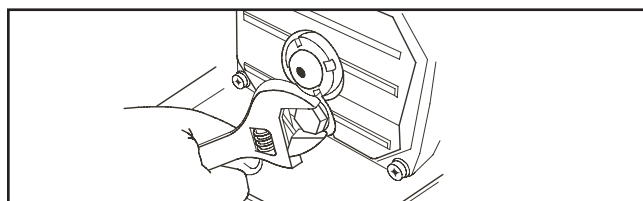

Figure 46— Removing Pump's Oil Drain Plug
6. Remove oil drain plug (see Figure 46) and let oil drain out completely.